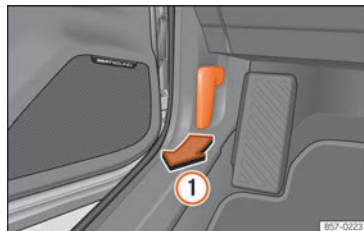

Fig. 308 Release lever in the driver's footwell area.
- Open the door and pull the lever under the dashboard »» Fig. 308 ①.